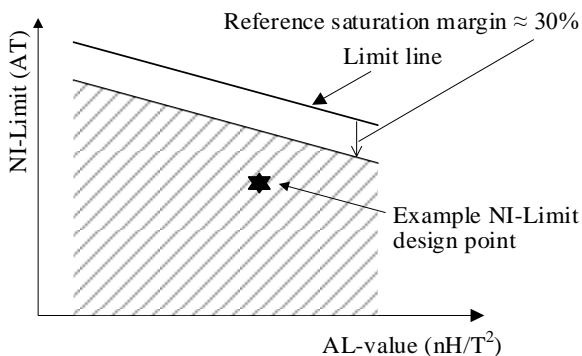

Figure 10-2. Example of NI-Limit vs. AL-value Characteristics
For proper transformer designing, the following should be taken in to account when you choose the AL-value of a ferrite core used in your transformer: the value of NI-Limit(AT) (= $N_P \times I_{\text{DP(DLY)}}$) calculated from the primary winding, N_P , and the peak drain current, $I_{\text{DP(DLY)}}$. To avoid transformer saturation, take variations in temperature and in other parameters into account, and choose a ferrite core with a calculated NI-Limit value that ensures a margin of $\geq 30\%$ to the upper saturation limit defined by the NI-Limit(AT) vs. AL-value graph (i.e., within the hatched area in Figure 10-2):